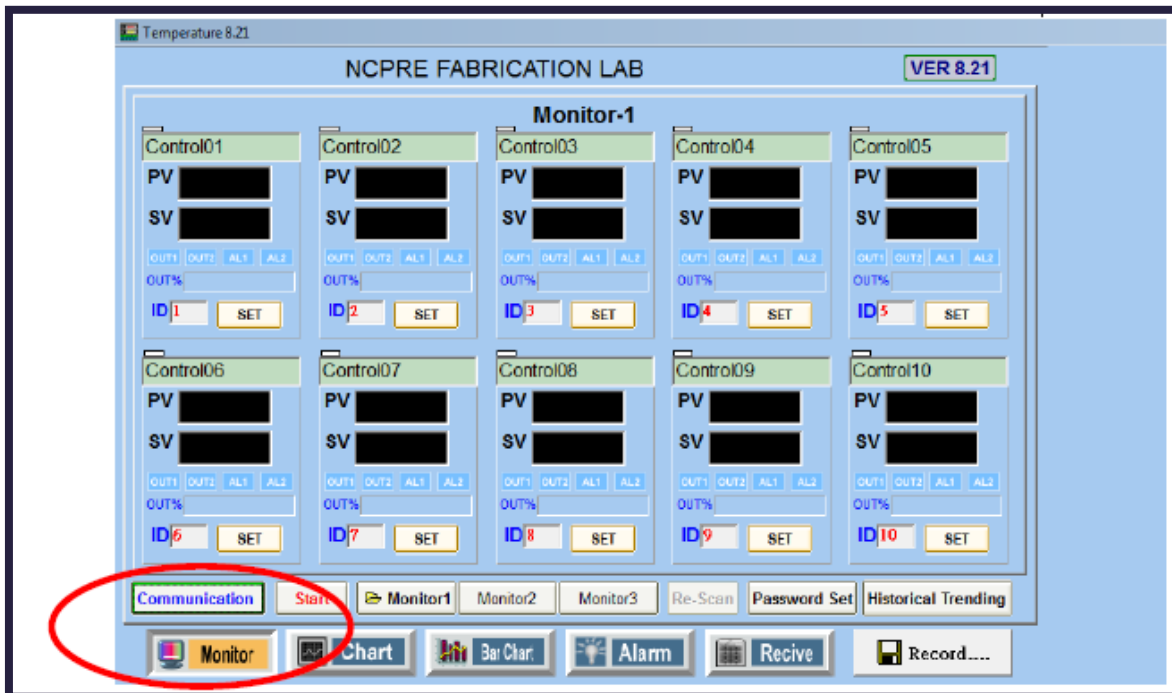

Figure. 15
3. Ensure the "Communication Settings" in software are in sync with the actual connection between the computer and the hardware of the furnace temperature controller. Click on "Communication" tab of the "Monitor" tab (Figure. 15).